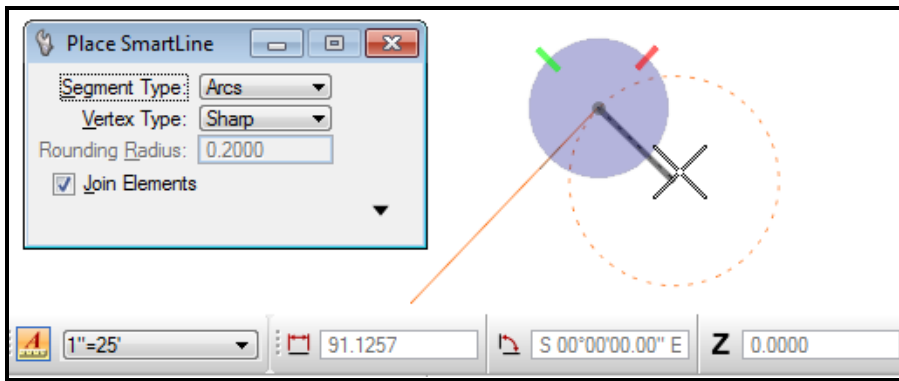

Figure 22-29: Swap to SmartLine Arcs
- 🎵 Use the **Tilde** key (~) to toggle *SmartLine* from **Segment Type Lines** to **Segment Type Arcs** (Figure 22-29).